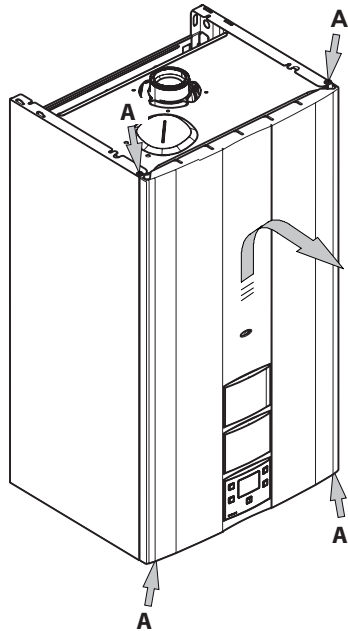

Figure 9.1
- Remove the screws A. Remove the front panel by moving it upward to free it from the lower hooks in Figure 9.1.